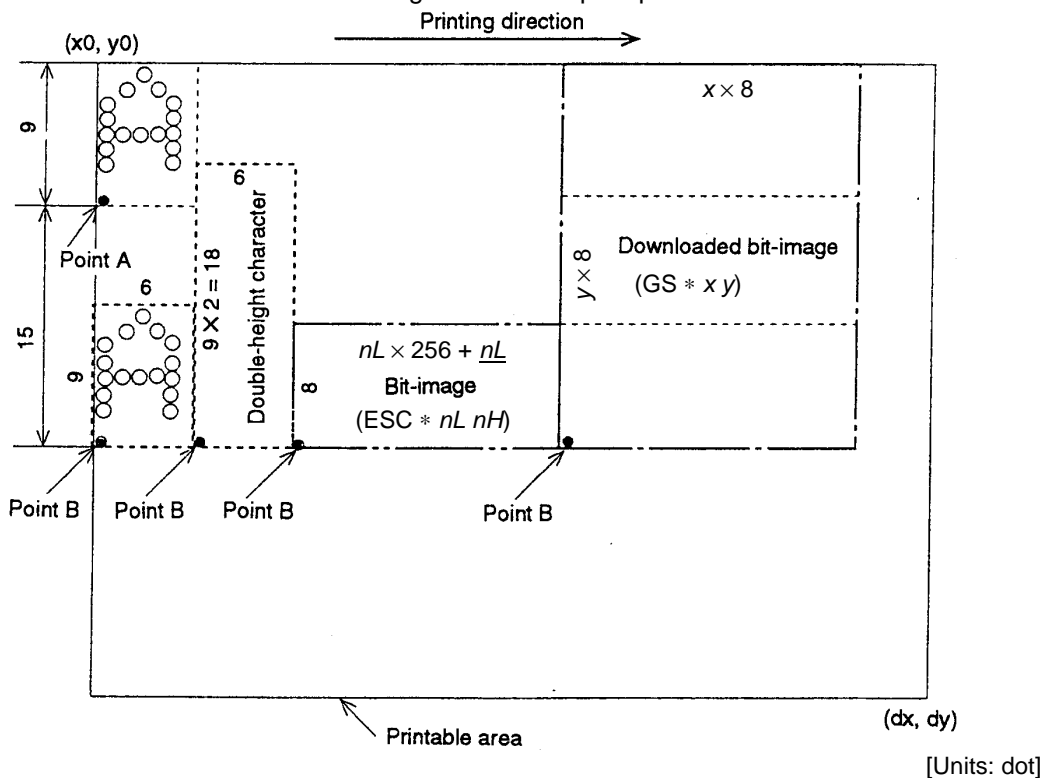

Figure 3.12.2 Downloaded Bit Image Developing Position
- 2) When the printer receives print data after **ESC W** sets the printable area and **ESC T** sets the printing direction, the print data is formatted within the printable area so that point A in Figure 3.12.2 is at the beginning of the printable area as a default value. (When a character is printed, point B is the baseline.)
Print data containing downloaded bit images is formatted so that the bottom point of the left side of the image data (point B in Figure 3.12.2) is aligned with the baseline.
- 4) The default value of the line spacing for paper roll is set to approximately 4.23 mm {1/6"} and corresponds to 12 dots. If print data for the next line contains extended characters that are higher than double-height characters, or bit images taking up two or more lines, the amount of line feeding may be insufficient, resulting in overlapping of the characters' higher-order dots with the previous line. To avoid this, increase the amount of line spacing. The line spacing requires 15 dots (30 pitch) or more (see Figure 3.12.2).